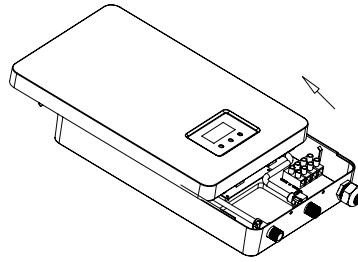

Figure 4
- 3.2. Step 2: Push the shell forward in the horizontal direction, and push the shell out from the bottom shell buckle (refer to Figure 4).